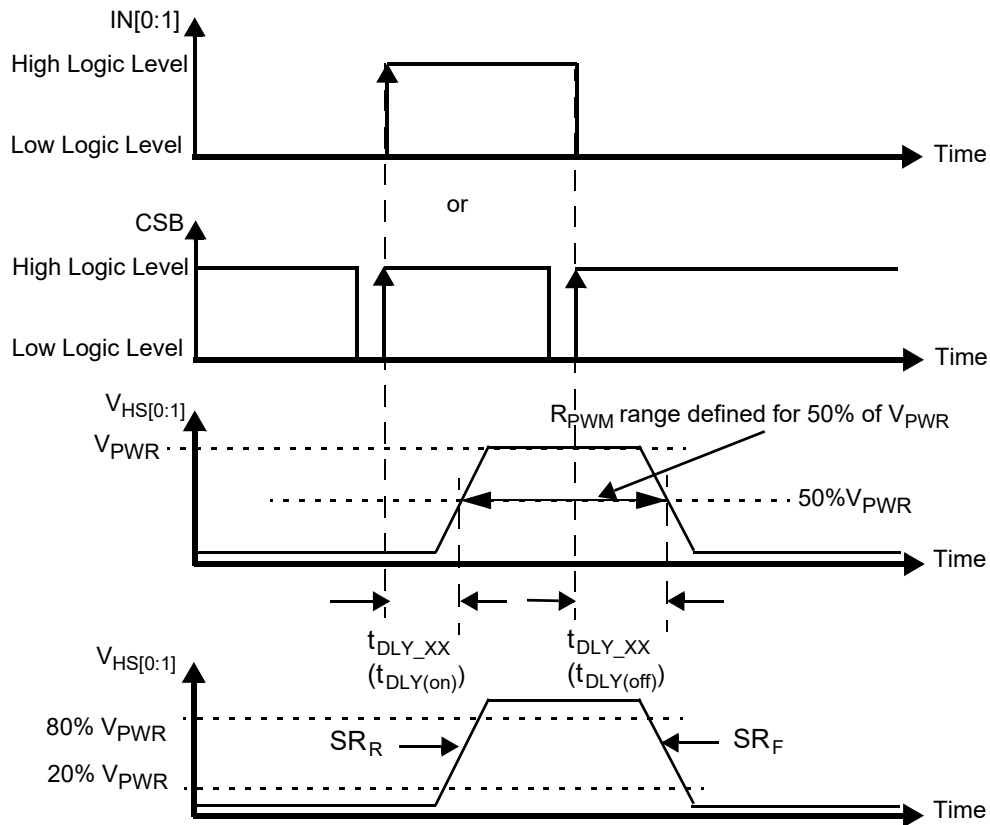
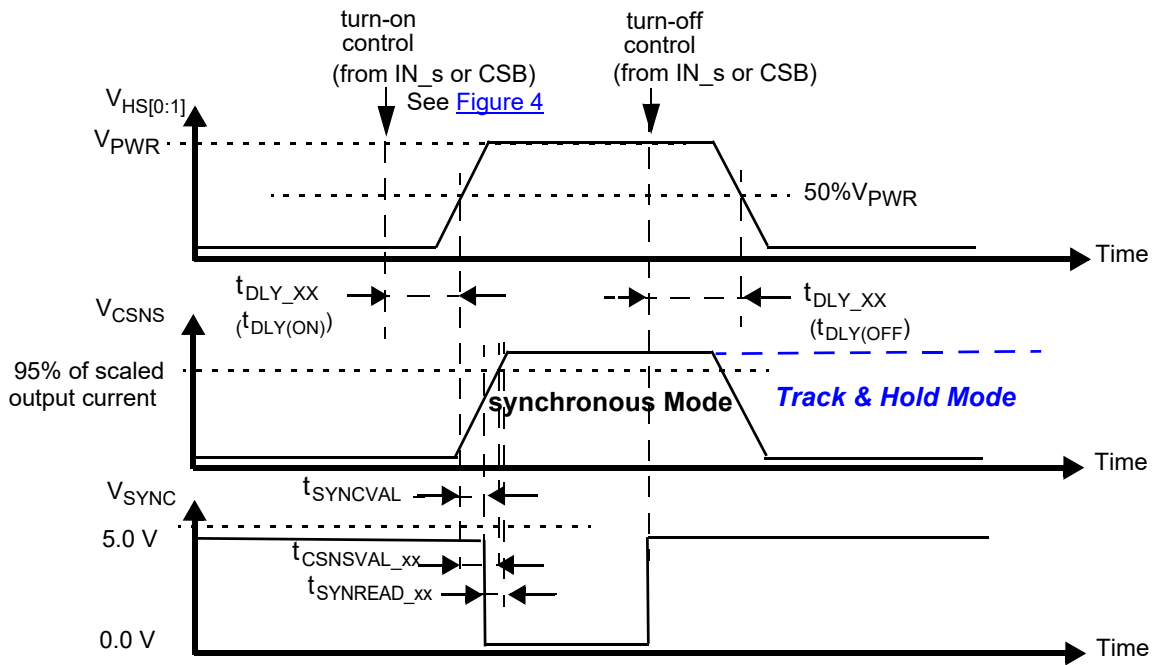

Figure 4. Output voltage slew rate and delay
Figure 9. Synchronous and Track & Hold current sensing modes: associated delay and settling times
27. Rising and Falling edge slew rates specified for a 20 % to 80 % voltage variation on a 10.0  $\Omega$  resistive load (see Figure 4).
29. Time required to switch off the channel after detection of overtemperature (OT), overcurrent (OC), SC or UV error (time measured between start of the negative edge on the FSB pin and the falling edge on the output voltage until  $V(HS[0:1]) = 50\%$  of  $V_{PWR}$ ).
30. Settling time ( $= t_{CSNSVAL\_XX}$ ), SYNC output signal delay ( $= t_{SYNVAL\_XX}$ ) and Read-out delay ( $= t_{SYNREAD\_XX}$ ) are defined for a stepped load current ( $100\text{ mA} < I(LOAD) < IOCLX\_A$  FOR  $CSNS\_RATIO\_S = 1$ , AND  $300\text{ mA} < I(LOAD) < IOCLX\_A\_0$  FOR  $CSNS\_RATIO\_S = 0$ ). (see Figure 9 and Output current monitoring \(CSNS\)).
To synchronize current sensing with an external process, the SYNC signal can be connected to a digital input of an external MCU. SYNC is asserted logic low when the current sense signal is accurate and ready to be read. The current sense signal on the CSNS pin has the specified accuracy  $t_{SYNREAD\_XX}$  seconds after the falling edge on the SYNC pin (Figure 9) and remains valid until a rising edge is generated. The rising edge that is generated by the SYNC pin at the turn-OFF instant (internal or external) may also be used to implement synchronization with the external MCU. Parameter  $t_{SYNIVAL\_XX}$  is defined as the time between the instant at the middle of the output-voltage rising edge ( $HS[0:1] = 50\%$  of  $V_{PWR}$ ), and the instant at which the voltage on the SYNC-pin drops below 0.4 V ( $V_{SOL}$ ). The SYNC pins of different devices can be connected together to save micro-controller input channels. However, in this configuration, the CSNS function of only one device should be active at a time. Otherwise, the MCU does not determine the origin of the SYNC signal. The SYNC pin is open drain and requires an external pull-up resistor to  $V_{DD}$ .